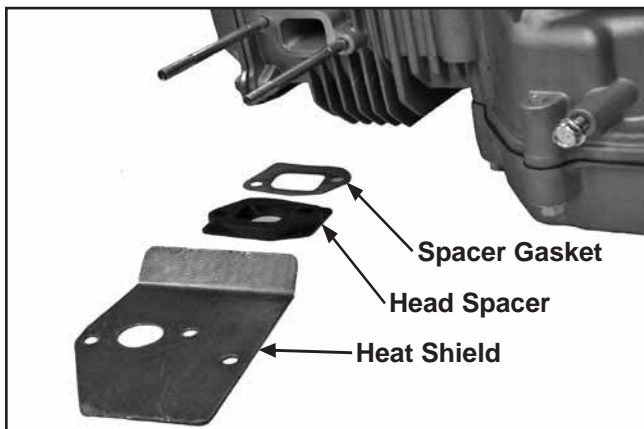

Figure 10-43. Installing Carburetor Gaskets
1. Place the spacer gasket, cylinder head spacer and the heat deflector gasket on the carburetor studs in the order shown in Figure 10-43.